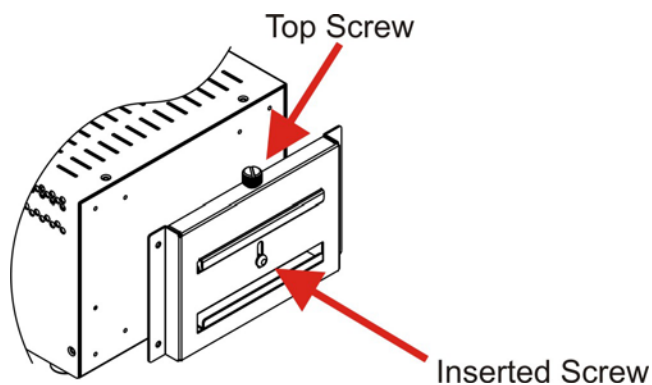

Figure 4-15: Screw Locations
Step 2: Make sure the inserted screw in the center of the bracket is at the lowest position of the elongated hole (**Figure 4-15**).